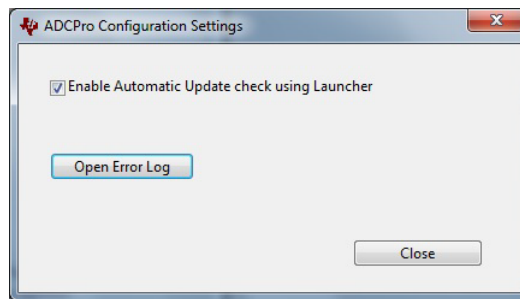

Figure 10. ADCPro Configuration Settings Menu
- The **Settings** menu allows access to the ADCPro *Configuration Settings* menu, shown in Figure 10, where the user may enable or disable the ADCPro Launcher and view error logs.